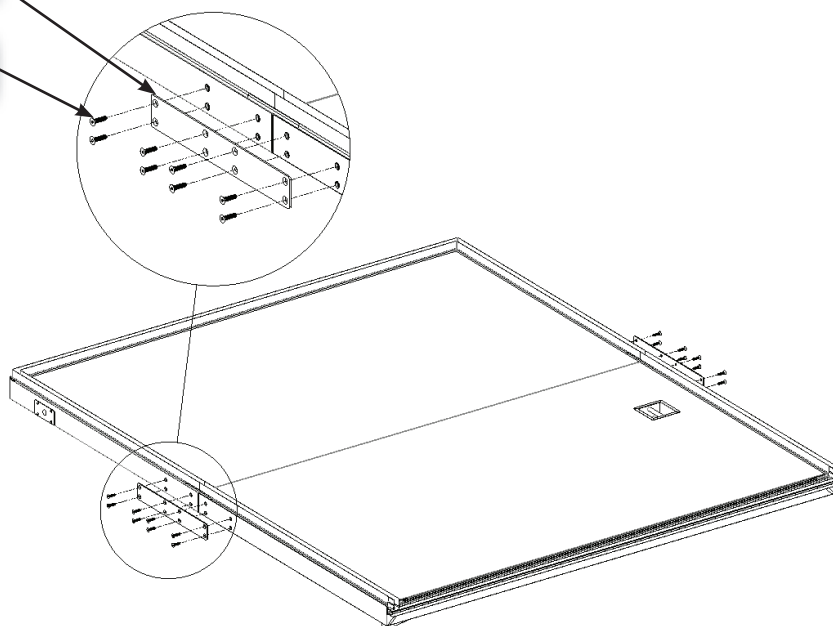

Figure 17: Install Panel Splice Plates
- 5 Locate (2) splice plates and 16 3/8-16 x 1.50" Flat head cap screws from loose parts box.
- 6 Attach (1) splice plate per side into 8 threaded holes in sides of panels with the cap screws (Figure 17). Panels may need to be compressed together slightly when attaching splice plates to seal gaskets between panel sections.